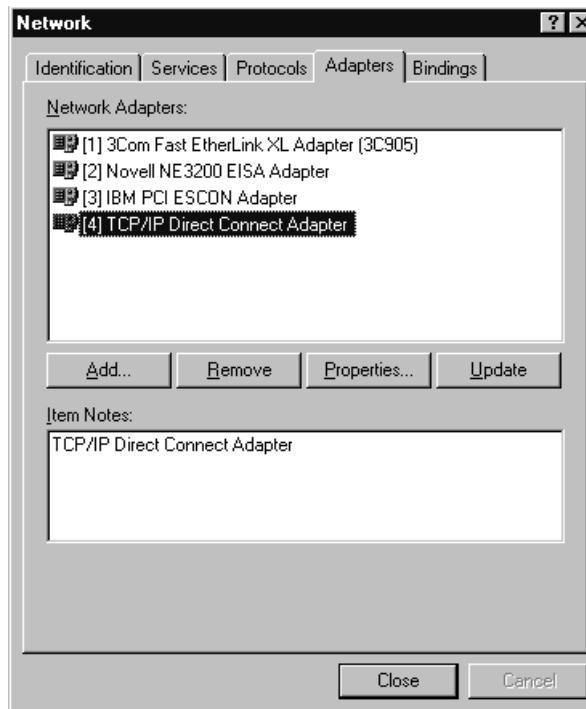

Figure 6-17. Network Adapter List with TCP/IP Direct Connect
8. After defining the fields click **C**lose to save your values and return to the Network Adapters screen (Figure 6-17).